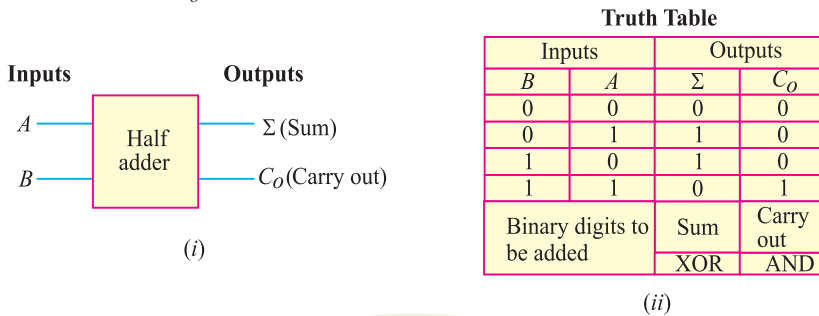

Fig. 26.56
(i) **Half Adder (HA)**. A logic circuit that can add two binary bits is called a half adder (HA). Fig. 26.56 (i) shows the block symbol for the half adder. The adder circuit would need two inputs and two outputs. The two inputs are for the two digits to be added, either 0 or 1. One output terminal is for the sum of the two inputs and the other output is for the carry, if necessary. Fig. 26.56 (ii) shows the addition table of the adder and can be thought of as a truth table. The numbers being added are on the input side of the table. The truth table has two output columns, one column for the sum and one column for the carry. The sum column is labeled with summation symbol Σ . The carry column is labeled with C_o . The C_o stands for carry output or *carry out*. Thus the half adder circuit has two inputs (A, B) and two outputs (Σ , C_o).
The half adder would behave according to the truth table shown in Fig. 26.56 (ii). Take a careful look at the truth table. The output columns (sum and carry) can be produced by using two gates as under :